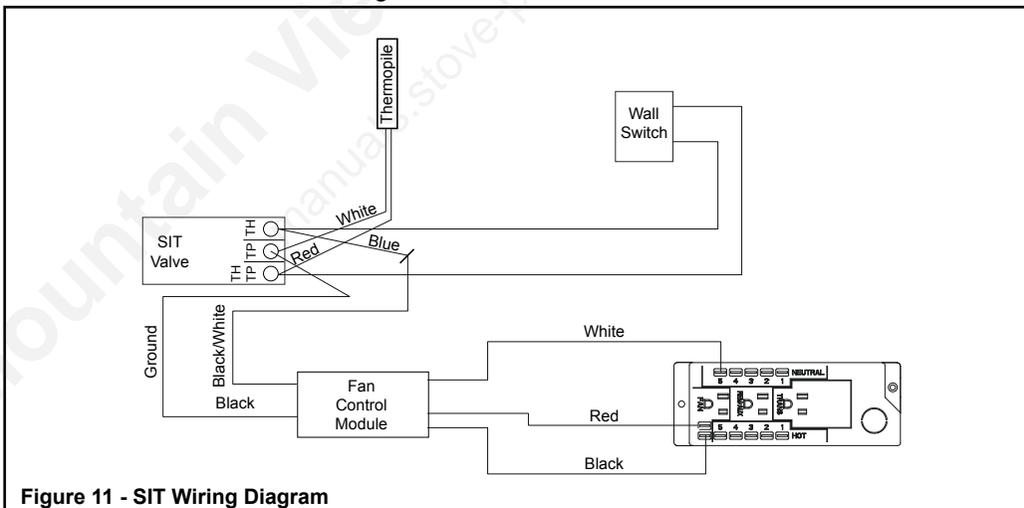

Figure 11 - SIT Wiring Diagram
- Connect the black, white and red wires with 1/4 in. female connectors from fan control module to appliance junction box as shown in Figure 11.